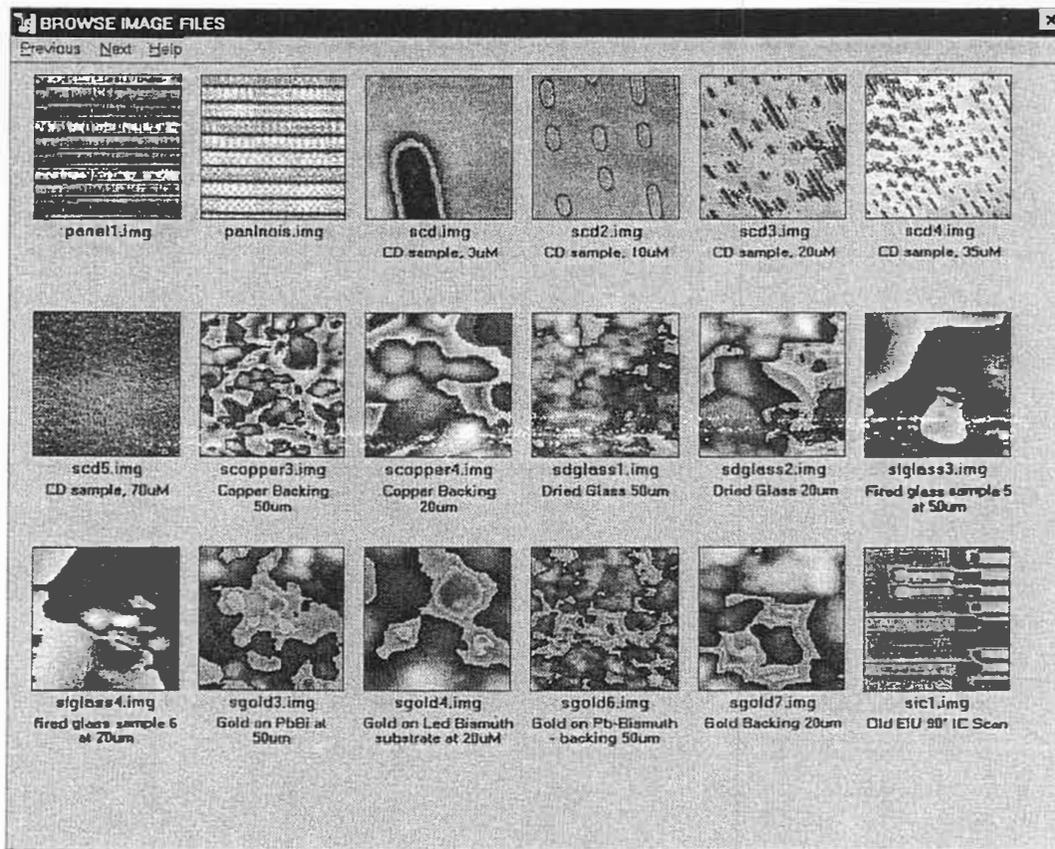

Figure D-5. Image Browse Window
The **File, Browse** command allows the user to visually browse through directories of images. When this command is invoked the user is prompted with a standard file dialog box (see Figure D-5 ). The file name that the user selects becomes the starting point for that directory. Eighteen (18) image files starting with the file name selected are then displayed in a top down Z color rendering on the screen simultaneously in adjacent locations within the browse window. Below each image is listed the file name of the image and the text from the comment field when the image was saved (see section Summary Information). The user can then click the mouse on any image that is displayed, and that image will loaded into the current data set.